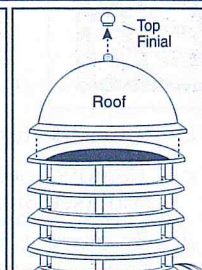

Figure 13
- For large Louver fixtures, unscrew top finial, remove roof and insert bulb. Reattach roof with top finial (see figure 13).